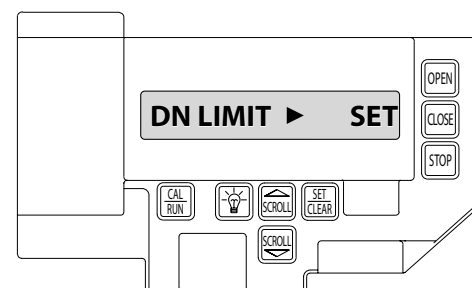

Figure 8B
- 4) Press SET/CLEAR key to switch display to "DN LIMIT>SET" Figure 8B.